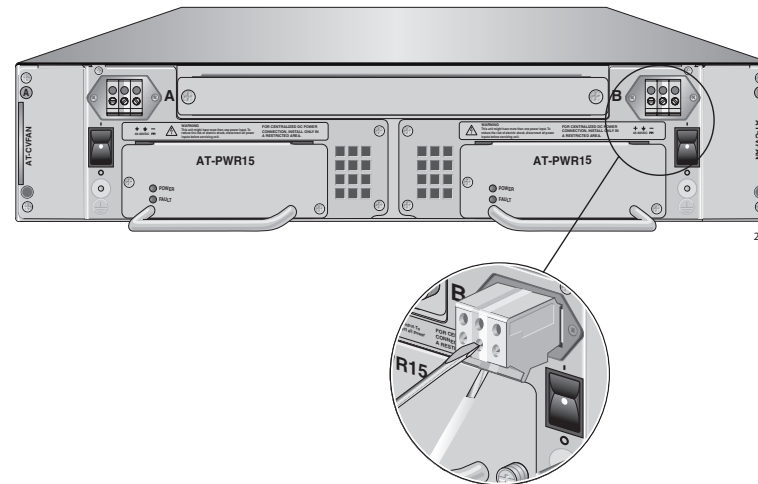

Figure 8. Inserting Wires into a DC Terminal Block
5. Connect the power supply ground wire into the middle of the three terminals; this is the terminal marked with the ground symbol. Inserting the wire into the terminal and tightening the connection with a flathead screwdriver, as shown in Figure 8.